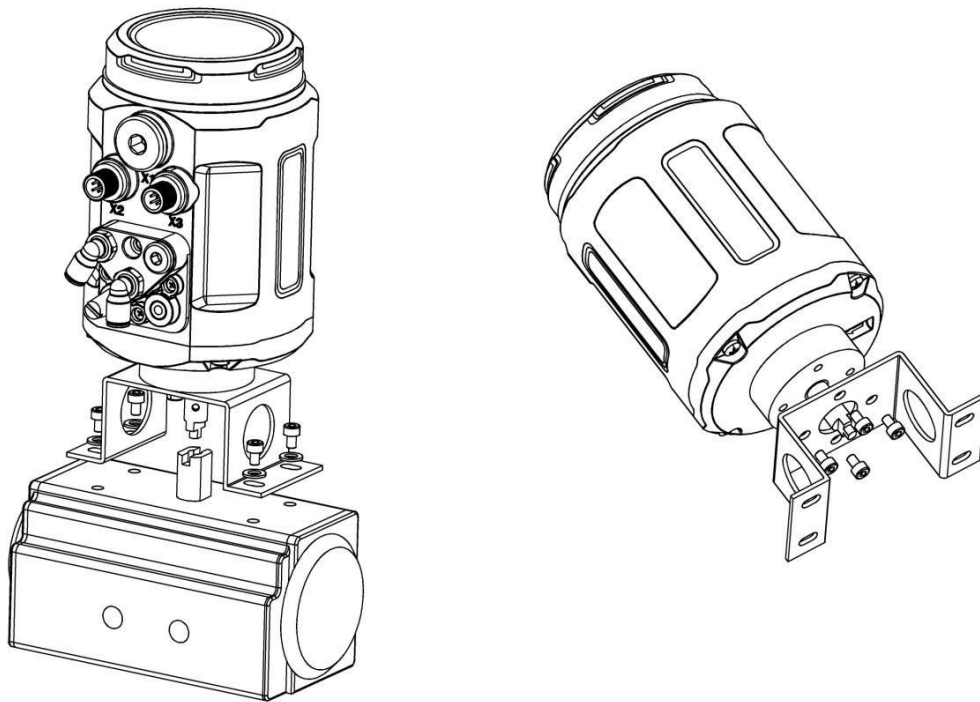

Figure 8. Graph Installation
1. Fix the mounting body under the positioner. As shown in Figure 8.
2. Connect the feedback pole of the positioner with the axis of the actuator. As shown in Figure 8.